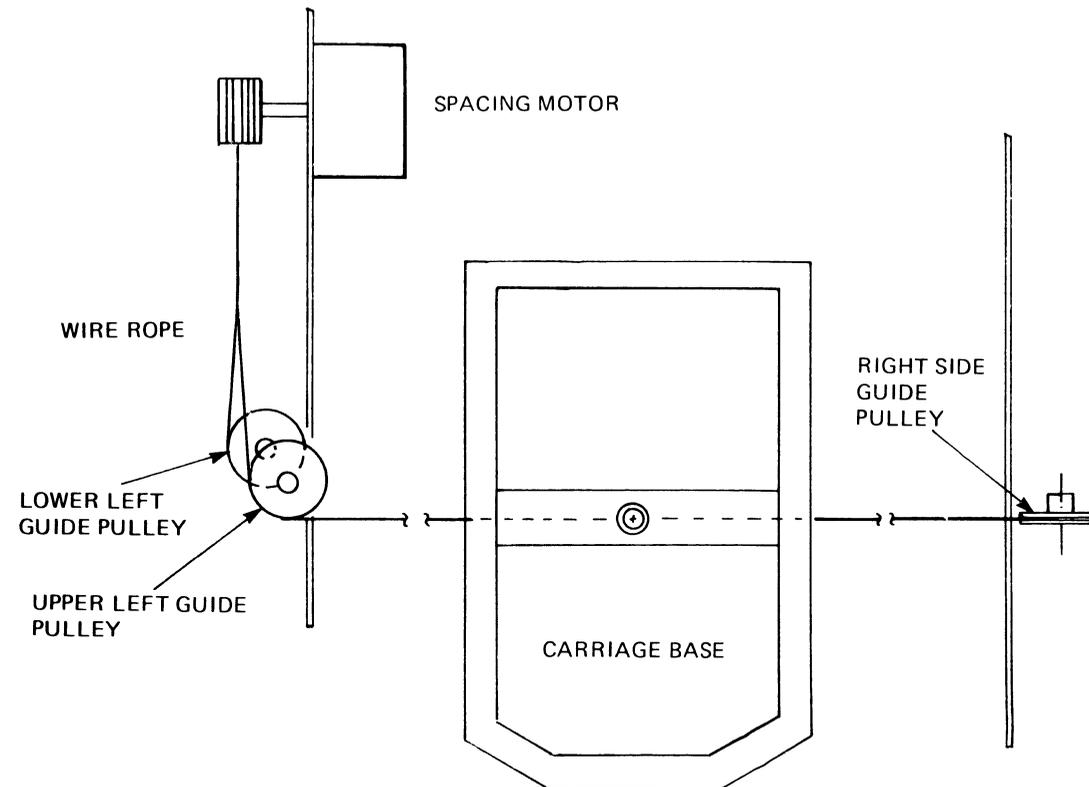

Figure 4-8 Wire Rope Installation
- c. Wind the right part of the wire rope around the right guide pulley (from top to bottom). Then wind the right part of the wire rope around the lower left guide pulley and insert the hook into the rear slot of the spacing motor drive pulley (see Figure 4-8).